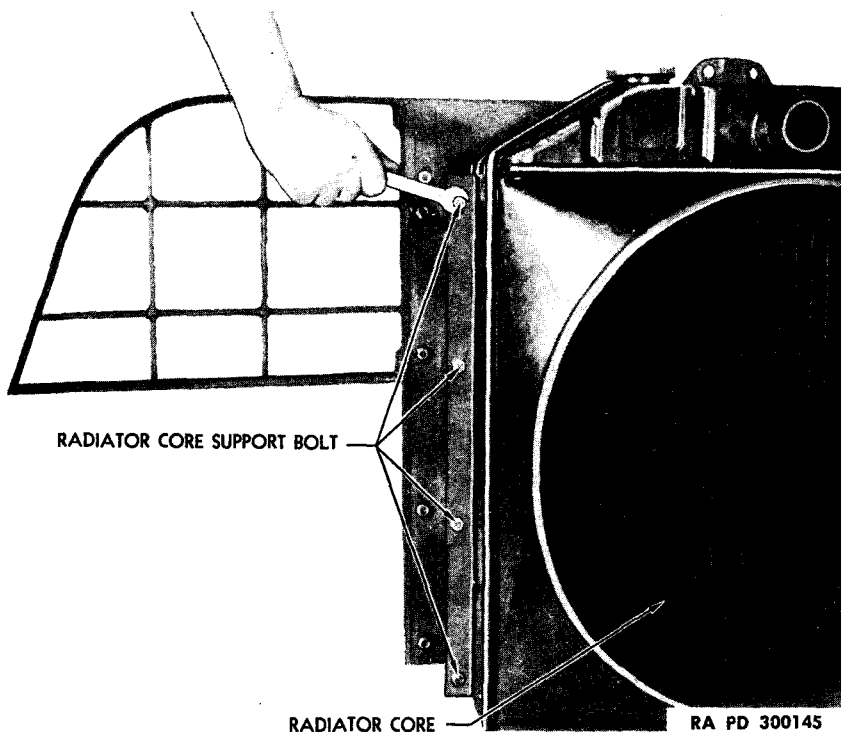

Figure 53—Removing Brush Guard from Radiator
(1) **ATTACH BRUSH GUARD TO RADIATOR.** Install and tighten eight bolts, nuts, and lock washers which attach brush guard side support to radiator core flange (fig. 53).